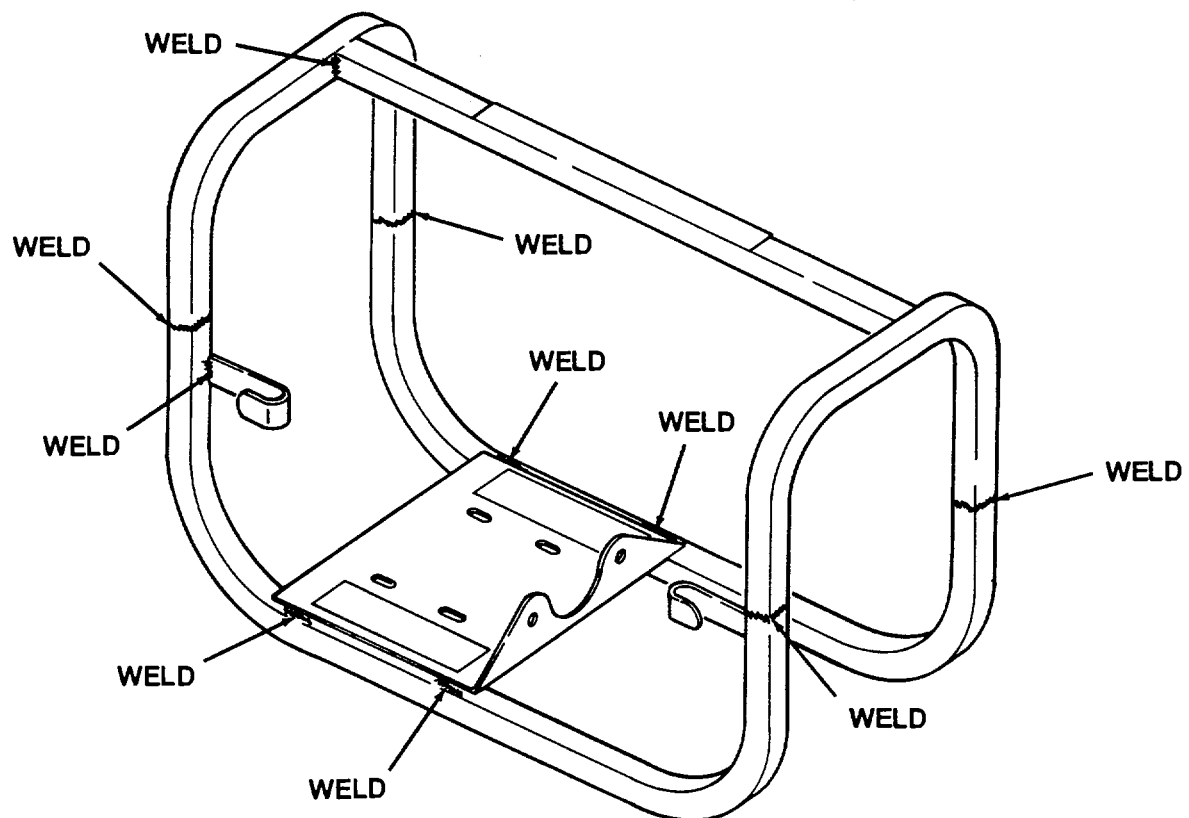

Figure 5-4. Frame Assembly Repair.
**a. Repair.** (Refer to Figure 5-4).
Repair of the frame assembly is limited to repair of welds in accordance with TM 9-237, Welding Theory and Operations. The weld areas to be examined are indicated in Figure 5-4 .